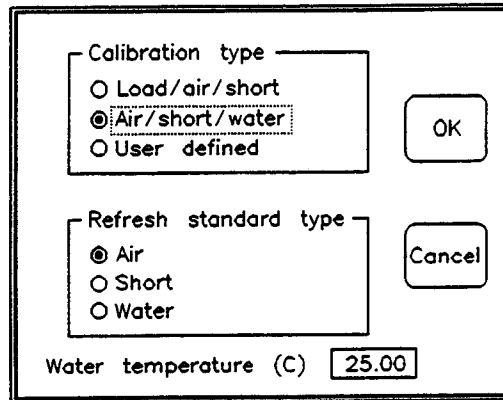

Figure 8-5. MS-DOS Version of Configure cal ... Dialog Box
- Replace figure 8-5 with the new figure provided with these instructions.